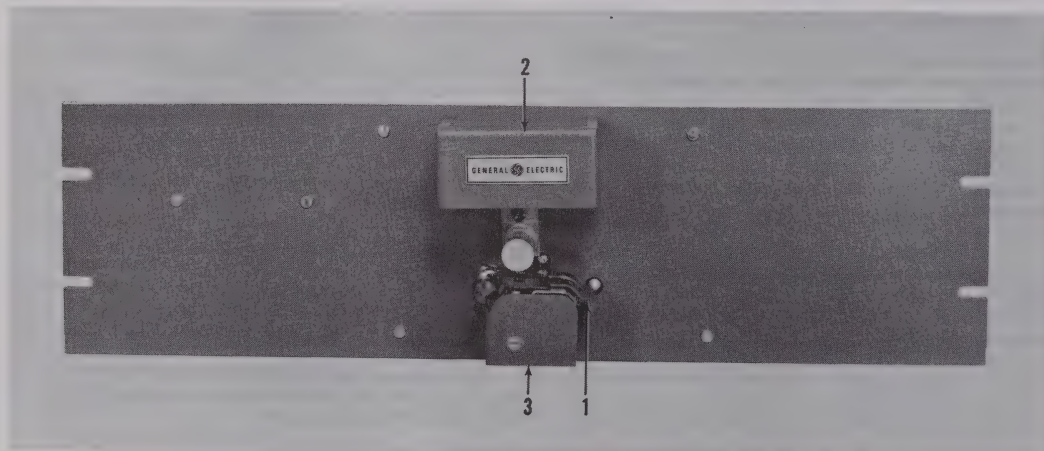

Figure 5.1.
5.3. TAPE LOADING - LOOPS AND STRIPS (See Figure 5.1.)
1. Lift the upper tape guide (part 1, Figure 5.1.).